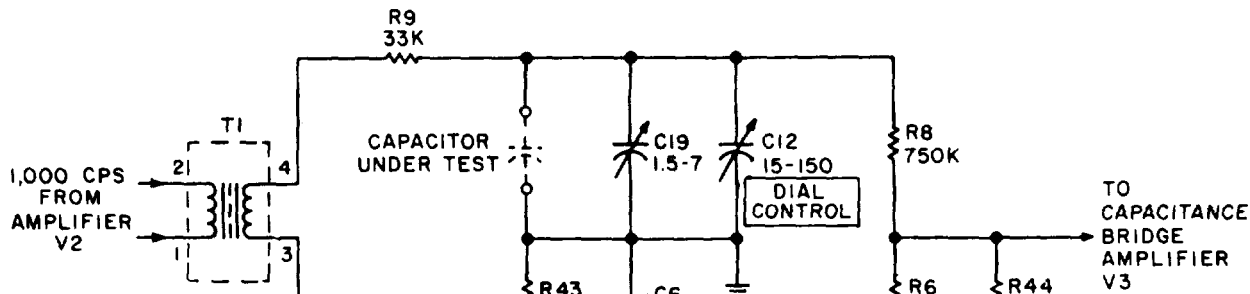

Figure 6. Capacitance bridge, 80 to 50000 MMF range, simplified schematic diagram.
(2) 80 to 50000 MMF range (fig. 6).